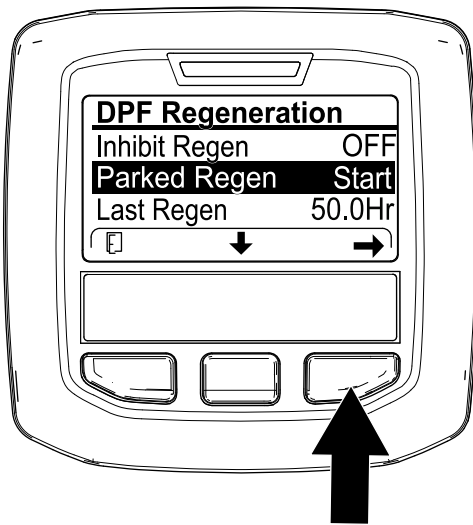

Figure 83
- Access the DPF Regeneration menu, press the center button to scroll down to either the PARKED REGEN START option or the RECOVERY REGEN START option (Figure 83), and press the right button to select the start the regeneration (Figure 83).